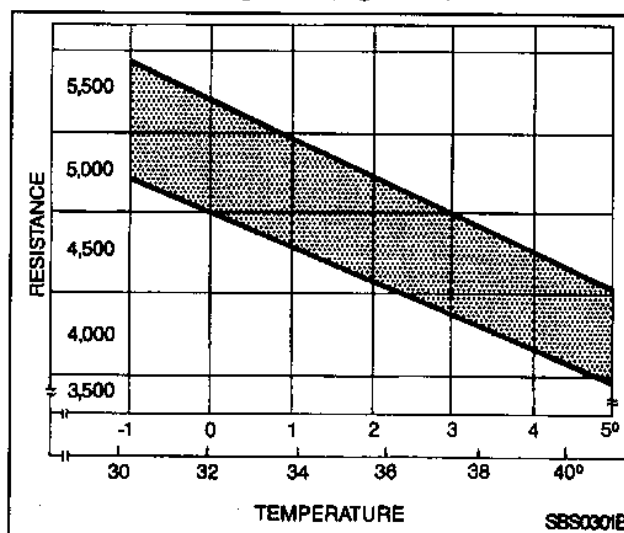

Figure 27—Evaporator Temperature Sensor Resistance/Temperature Relationship
- C. Refer to the evaporator temperature sensor resistance/temperature relationship chart to make sure evaporator temperature sensor resistance falls within specification for a given temperature. If the evaporator temperature sensor does not perform to specification, it should be replaced (Figure 27).